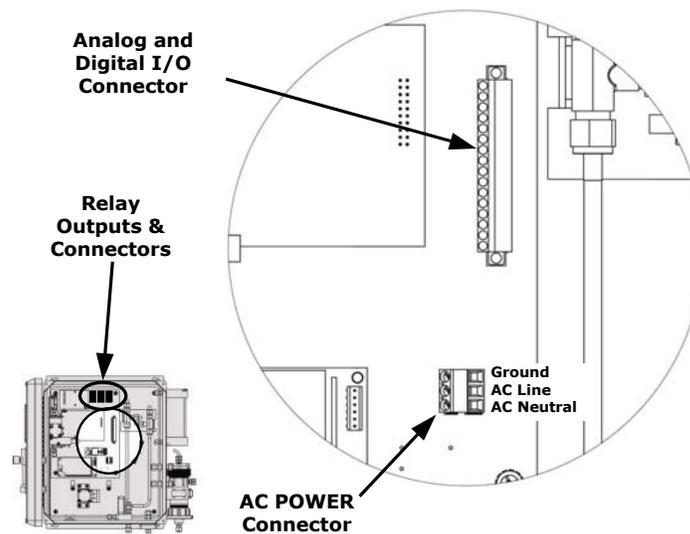

Figure 3-6 Location of Electrical Connectors
4. Attach the leads of the power line to the AC power connector (see Figure 3-6)
All digital and analog signal I/O connections are made via a 16-pin connector on the main board (See Figure 3-6 for the location of the connector.)